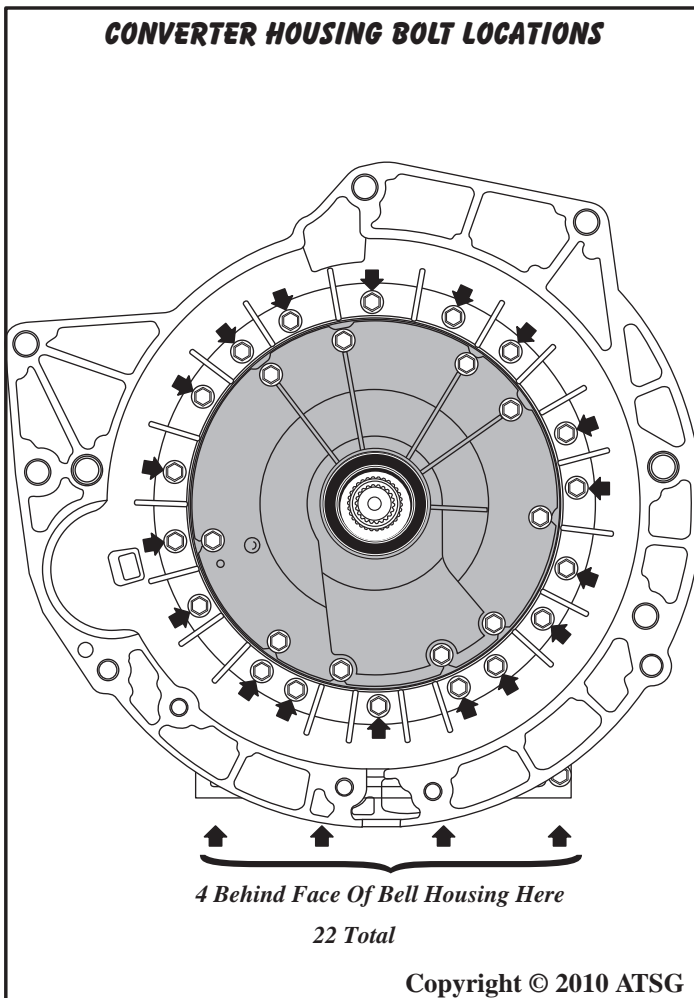

Figure 39
5. Remove the 22 converter housing retaining bolts, which is the outer row, as shown in Figure 39, using a 12 MM socket.
*Note: Four of the converter housing bolts are behind the face of housing, as shown in Figure 39.*